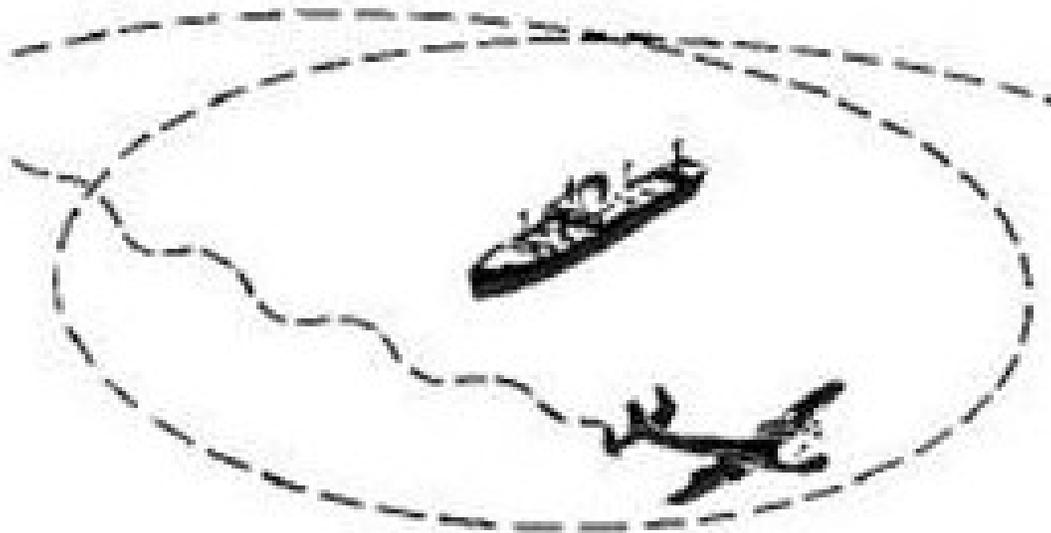

Figure 551-8ST-1039_07 (Aircraft Signal)
(1) The aircraft will circle over the ship at least once, then cross the bow of the ship as close as possible (Figure 551-8ST-1039_07).